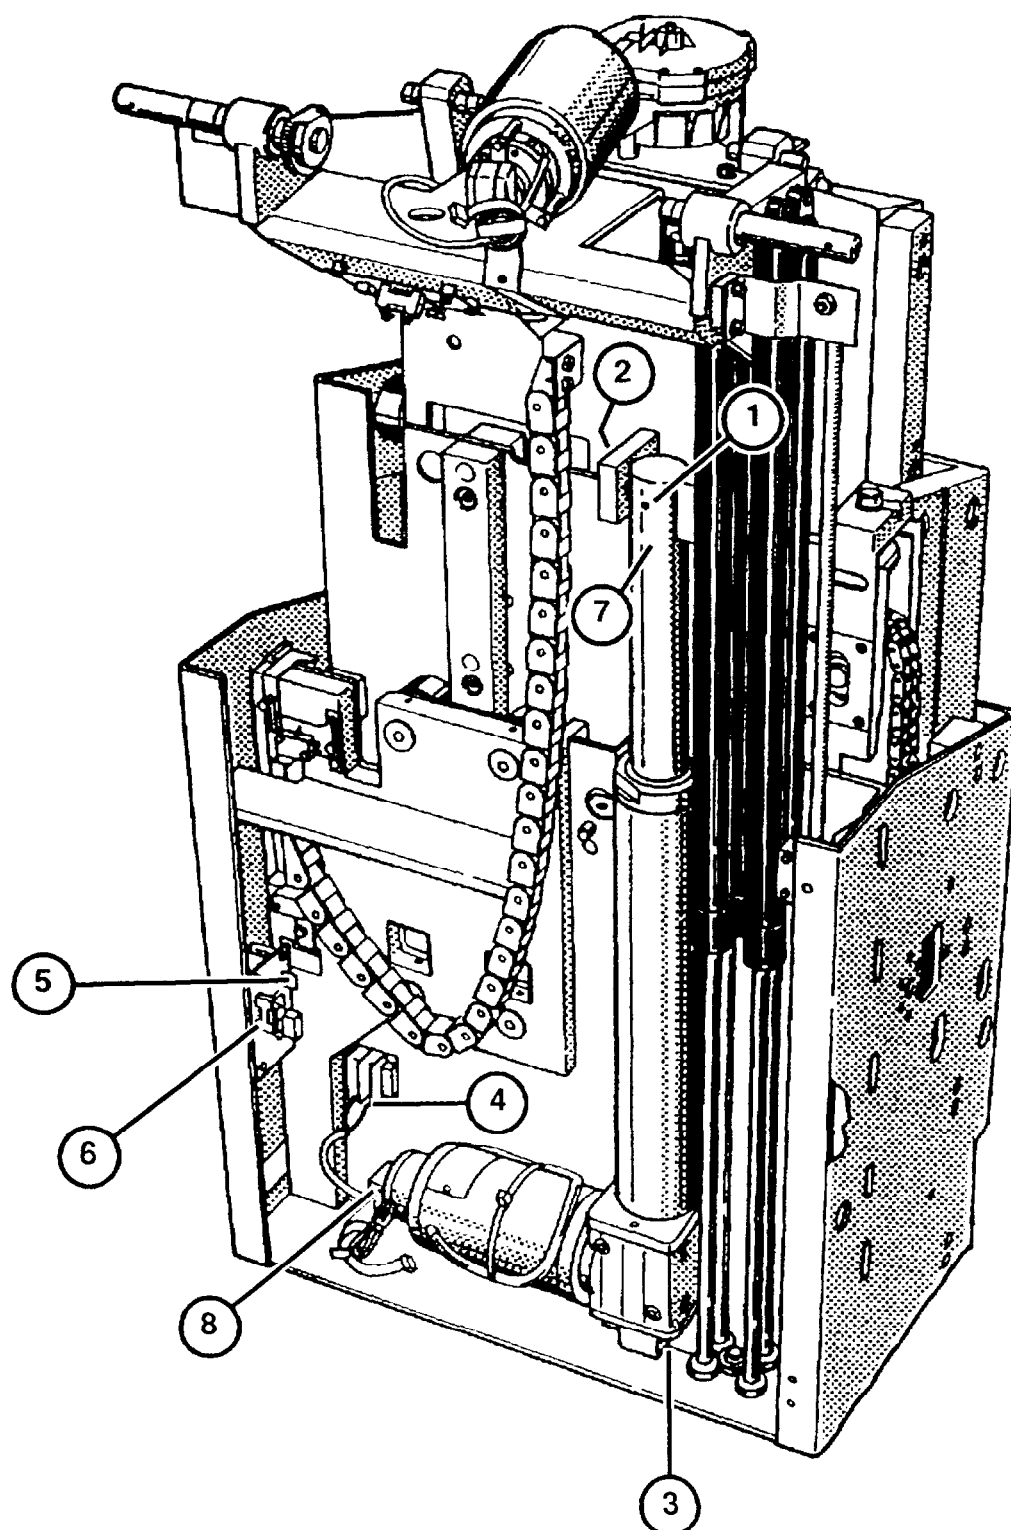

Fig. 1
M2 X1.1 / M2 X1.2, (4/Fig.1)    D102 X1, (5/Fig.1)    D102 X2, (6/Fig.1)
- Insert screw (M6x25) from the left temporarily into the bolt (2/Fig.1).
- Remove the grub screw (1/Fig.1) and prepare for the installation of the new lift cylinder.
- Withdraw the bolt using the screw (M6x25, 2/Fig.1) .
- Remove the Seeger ring (3/Fig.1) with flexed Seeger ring pliers and prepare for later use.
- Insert the lower bolt and secure with the Seeger ring (3/Fig.1) removed before.
- Remove the inner tube of the lift cylinder (7/Fig.1) until the upper opening of the lift cylinder is reached.
- Tighten the grub screw (1/Fig.1).
- Remove the screw inserted temporarily (M6x25, 2/Fig.1).